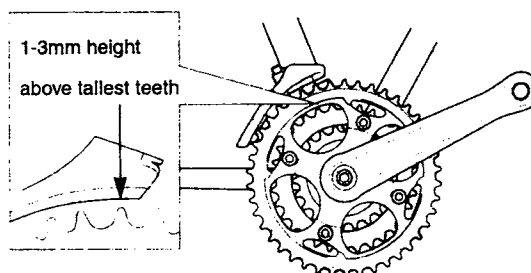

Fig. 15 - Setting proper height of the derailleur
Proper height is critical to good shifting performance. If the cage is set too high, shifting performance suffers due to misalignment of the shifting platforms. If it is set too low, the cage will actually contact the chainring teeth when a shift is attempted. Proper derailleur height is achieved when the bottom edge of the outer cage plate is set to a range of 1 to 3 millimeters above the tallest teeth on the largest chainring (see figure 15).
Step 2 – Adjust the height of the front derailleur cage from 1 to 3 millimeters above the tallest teeth of the large chainring (see figure 15).